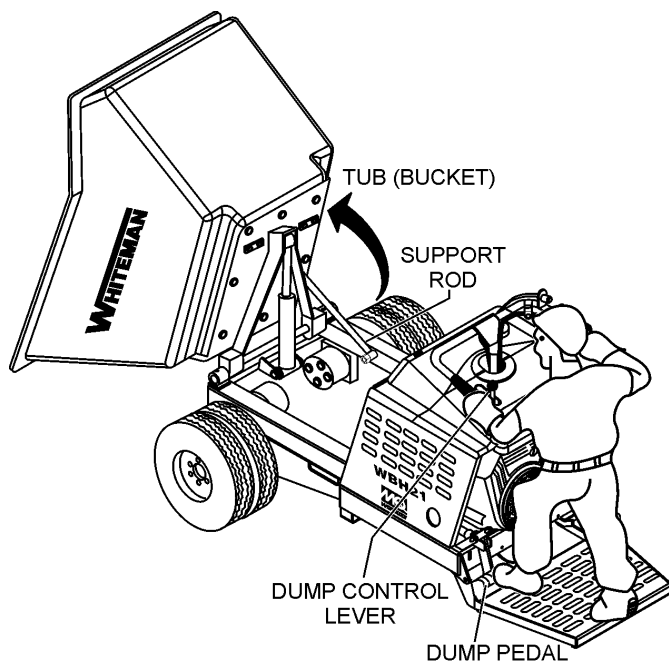

Figure 37. Tub Dump Position
3. To gain access to the hydraulic oil tank filler hole, the tub (Figure 37) must be placed in the dump position (vertical).